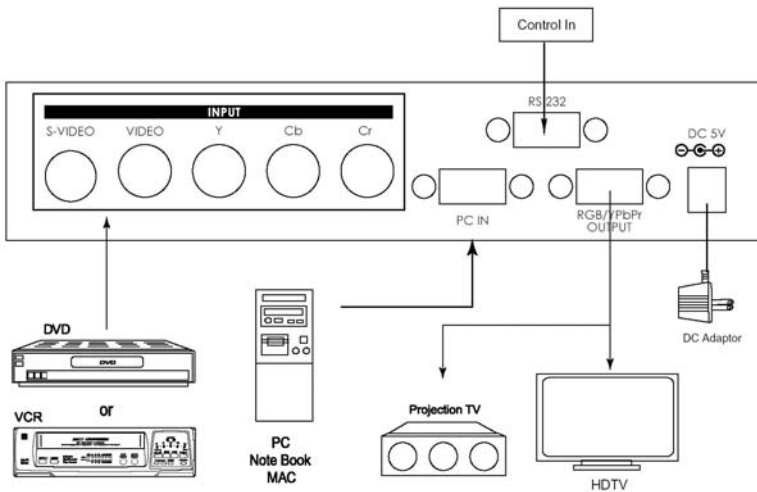

Figure 2.1
2.1 Connecting the Video inputs (refer to figure 2.1)